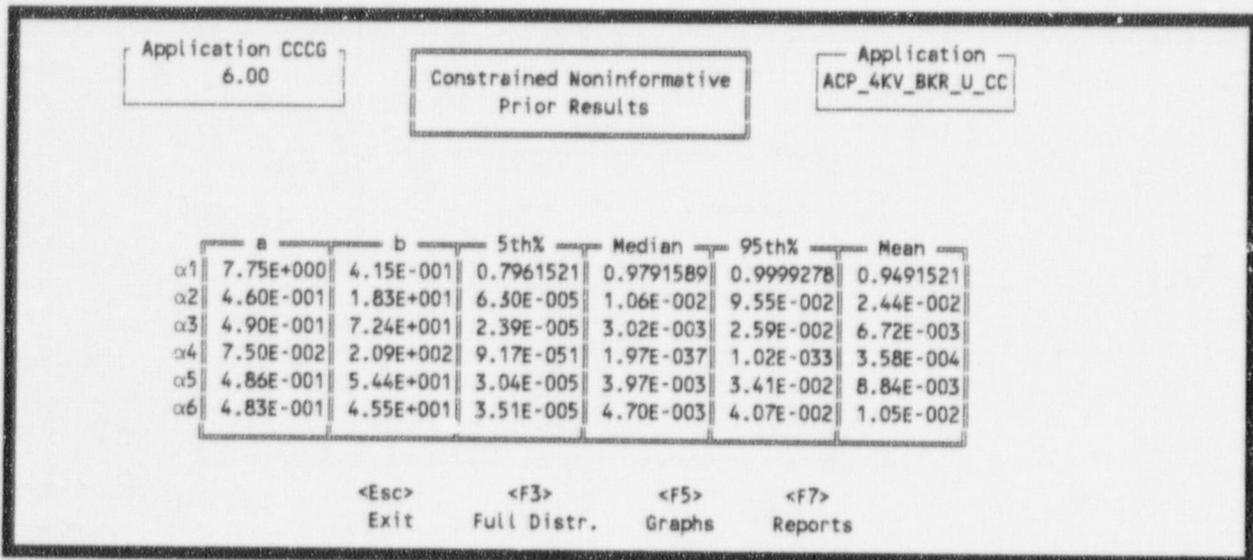

Figure 25. Generic—Constrained Noninformative Prior Results.
**3.4.1.2.1 Constrained Noninformative Prior**—The results of Constrained Noninformative Prior calculations are displayed in Figure 25.
- <F3> Full Distribution—Displays the full posterior distribution for each applicable alpha (Figure 25).